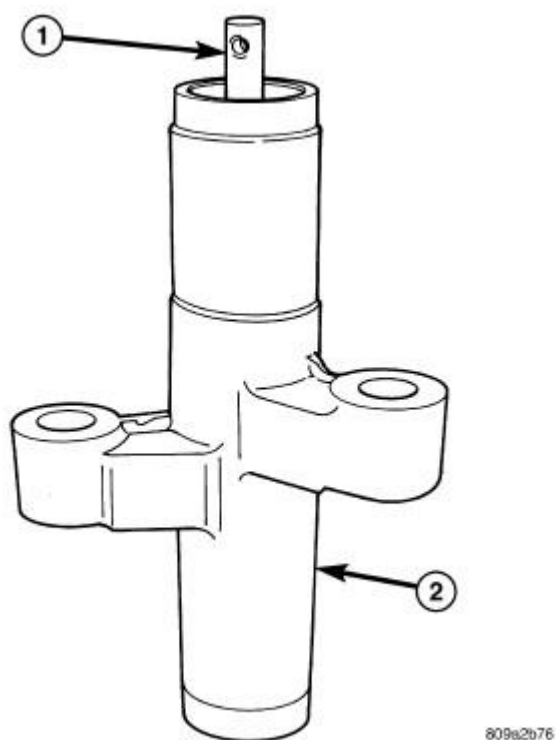

Fig. 524: Timing Belt Tensioner
1. Inspect hydraulic tensioner (2) for fluid loss around the plunger (1) seal. Refer to **Fig. 524**. Replace tensioner if leaking.